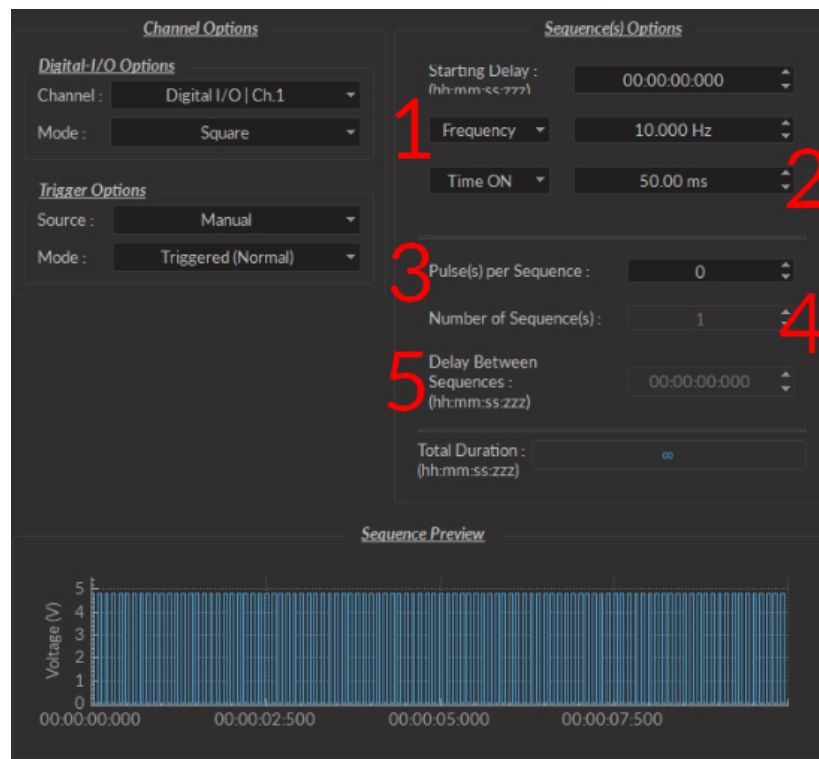

Figure 3.18: Channel(s) configuration window, Digital I/O square
- The **Square** channel mode (Fig. 3.18) allows the creation of a square TTL pulse sequence. This includes all sequence options as the **CW** mode, with the following additions.